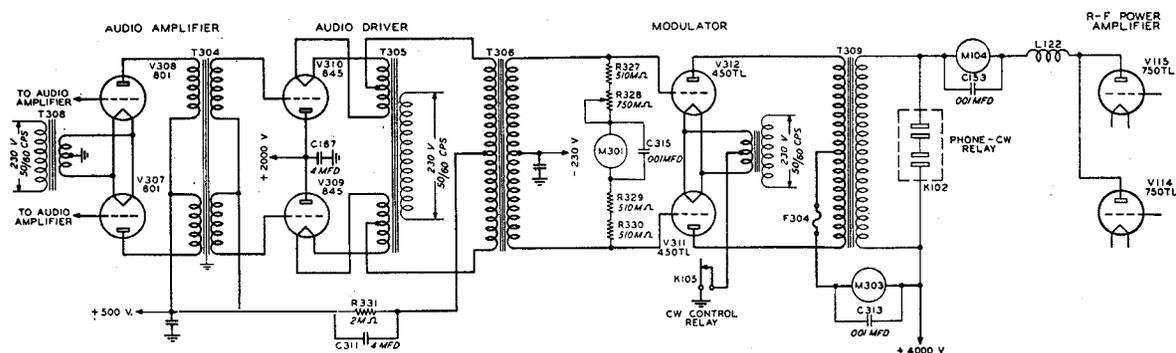

Fig. 14 Audio Driver and Modulator Circuit (Dwg. No. 502 0186 003)
2.9.5. Audio Driver. Refer to Fig. 14. A cathode coupled push-pull audio driver is employed to drive the Class B modulator stage. The audio drive employs two Type 845 transmitter triodes (V309 and V310). By taking the output from the cathode circuit rather than the plate circuit a much lower impedance output is obtained, making it much easier to couple the output of the audio amplifier to the grids of the modulator tubes.